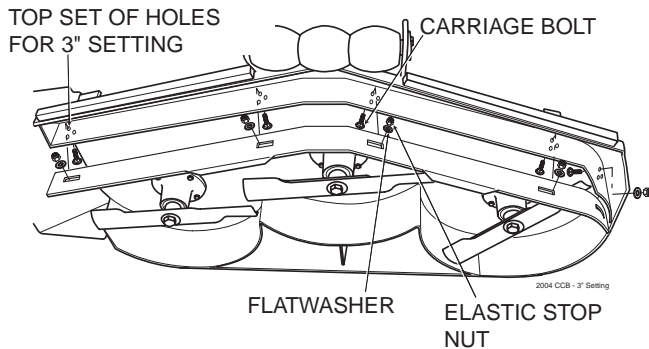

Figure 6-9. 3" Custom Cut Baffle Position
- A. 3" Position - baffle is installed using the top set of holes on the front baffle welded inside the cutter deck. (See Figure 6.9). The Advantage cutter deck will deliver the best quality-of-cut in very tall, wiry, tough to cut grass.
3. Move the Custom-Cut Baffle to desired position. (See Figures 6.9 through 6.11 for position).